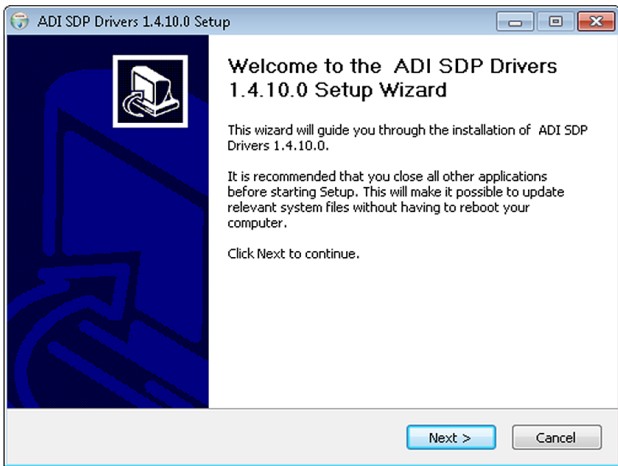

Figure 2. SDP Drivers Setup
3. Click Next> in the SPD drivers installation to continue the SPD drivers installation (see Figure 2).